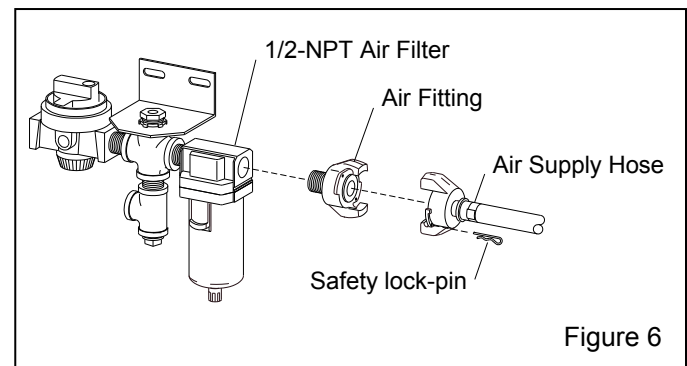

Figure 6
2.3.1 Refer to Paragraph 2.3.2 to determine the recommended air supply hose size, then refer to Figure 6 and apply thread sealant to the male threads of an air fitting that is compatible with the air supply hose fitting, and install it onto the 1/2-NPT air filter located under the cabinet hopper. Note that the style of connection shown in Figure 6 is for reference only.